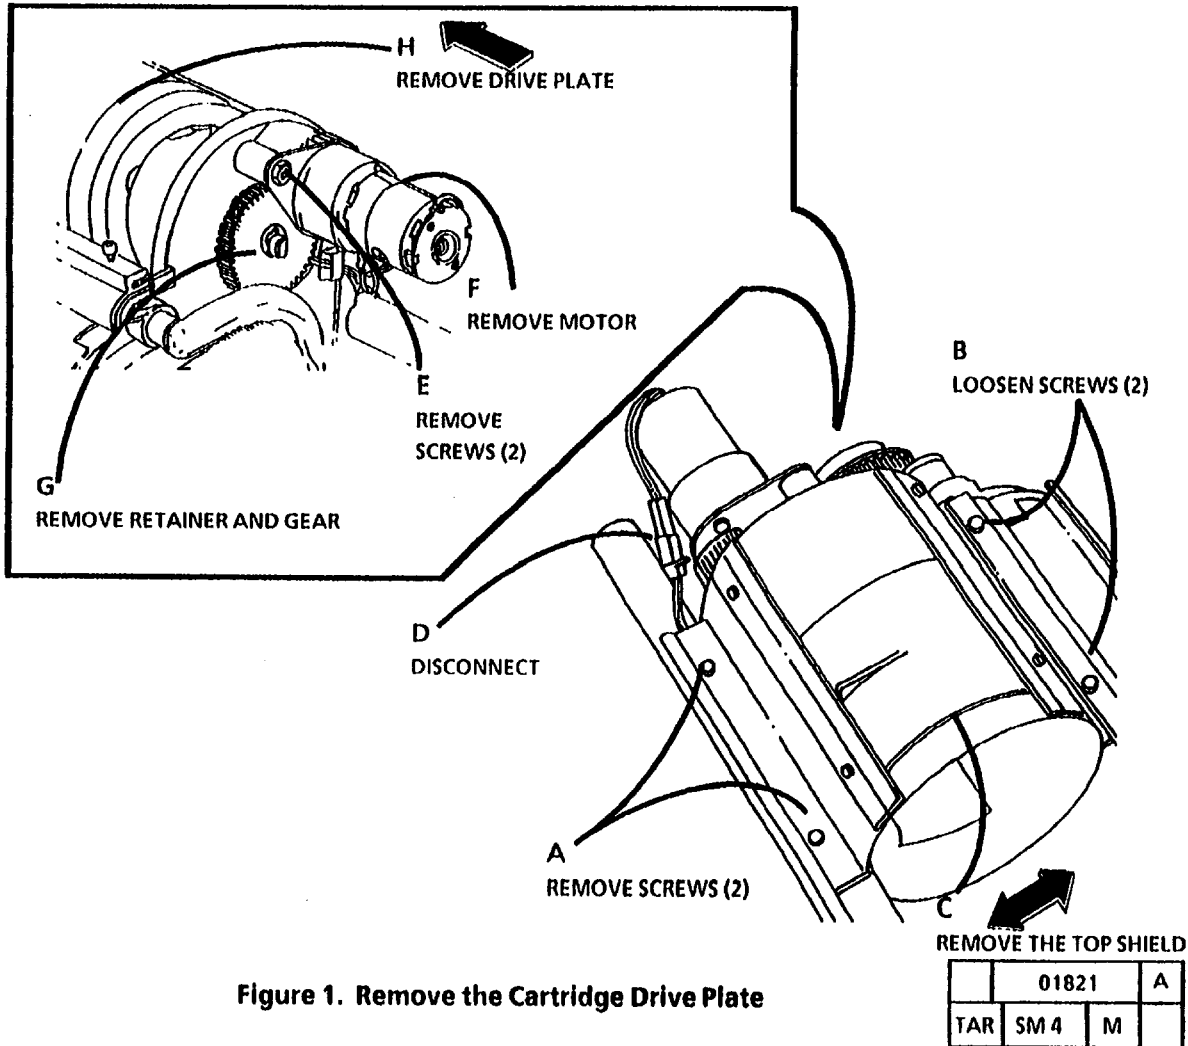

Figure 1. Remove the Cartridge Drive Plate
3. (Figure 1): Remove the Cartridge Drive Plate.